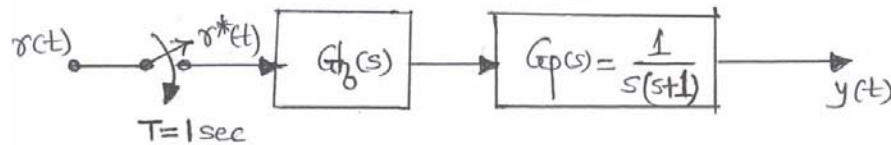

Figure 1
- Q7) a)** Find the step response of the system shown in the figure 1. [12]